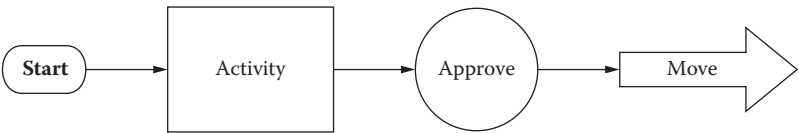

Figure 6.6 Similar distance between symbols.
4. Keep the symbols about the same distance from one another (Figure 6.6).